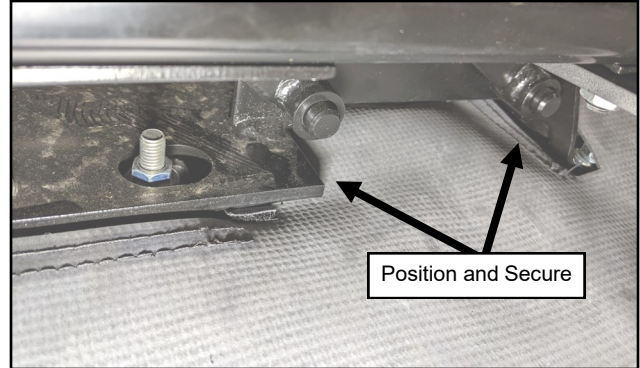

Fig. 19.7 (Secure Filler Under Seat)
- 19.7** Position and secure the filler under the seat. See Figure 19.7.